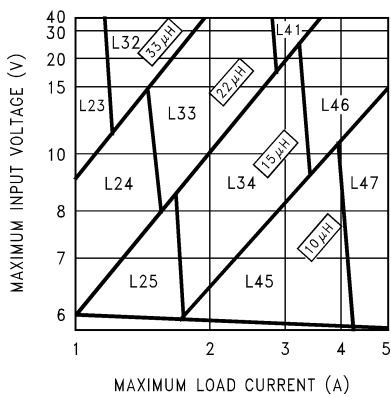
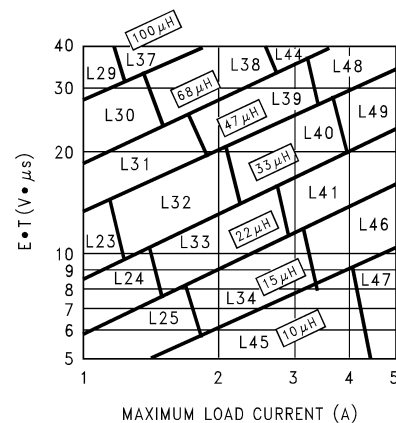

Figure 7-2. LM2678-3.3
Figure 7-5. LM2678-Adjustable
Step 3: Determine the inductor required by using one of the four nomographs, Figure 7-2 through Figure 7-5. Table 7-3 provides a specific manufacturer and part number for the inductor.
Step 5: Determine an input capacitor from Table 7-5 for fixed output voltage applications. Use Table 7-1 to find the specific capacitor type. For adjustable output circuits select a capacitor from Table 7-1 with a sufficient working voltage (WV) rating greater than V_{IN} max, and an RMS current rating greater than one-half the maximum load current (2 or more capacitors in parallel can be required).
Step 3: Use the nomograph for the 3.3-V device, Figure 7-2. The intersection of the 16-V horizontal line ($V_{in\text{ max}}$) and the 4-A vertical line ($I_{load\text{ max}}$) indicates that L46, a 15- μH inductor, is required.